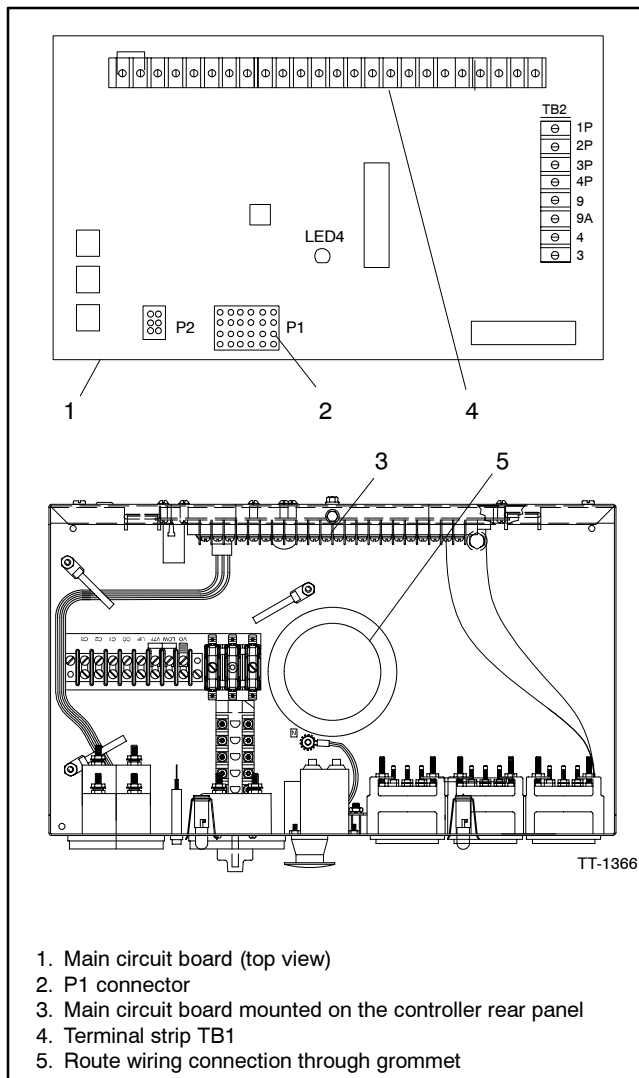

Figure 3 Controller Circuit Board Connections
- 2.6 Connect the leads from the controller connection assembly to terminal strip TB1 on the controller main circuit board. See Figure 3. If access to interconnection circuit board is difficult, remove two controller panel top screws and center bottom screw and then loosen bottom screws to swing rear controller panel down.